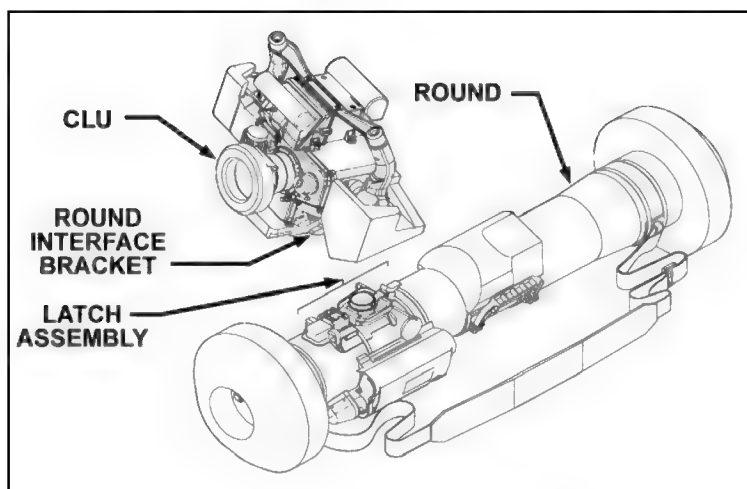

Figure 2-18. Connect the CLU to the round.
(1) Remove the protective cover from the CLU and round interface connectors. Pull on the lanyard tab to snug the protective cover against the side of the round and CLU. Position the protective covers so they do not interfere when the CLU and round are connected.
(2) Grasp the handgrips and lift the CLU into position over the CLU interface connector. Keep the eyecup pointed toward the aft end of the round (Figure 2-18).
(3) Place the round interface bracket in the round hooks.